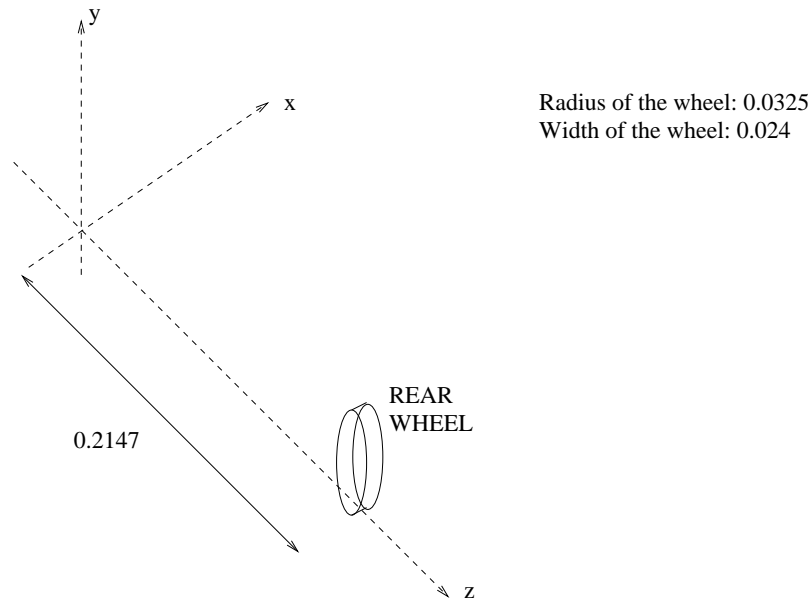

Figure 3.21: Rear wheel of the Pioneer 2TM robot
- for the rear wheel: a `Transform` node containing a `Shape` node with a geometry field set to `Cylinder`, as shown in figure 3.21